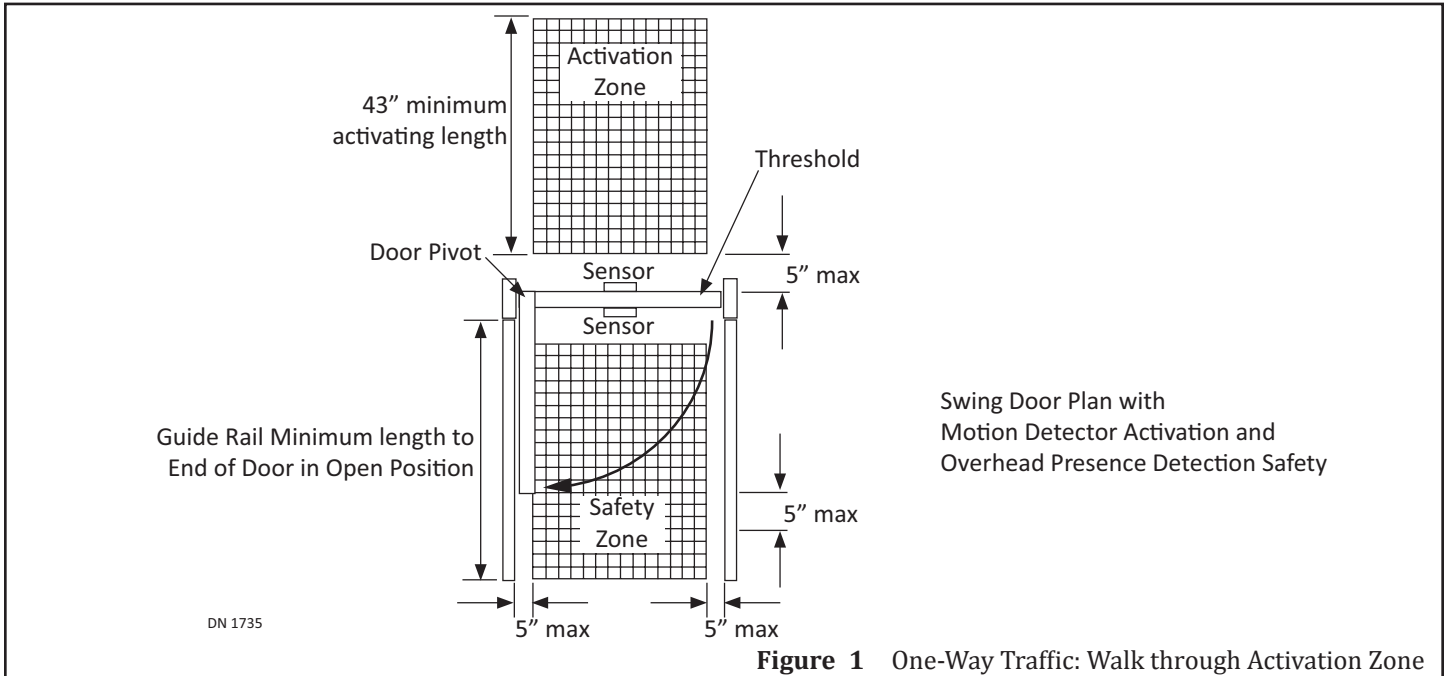

Figure 1 One-Way Traffic: Walk through Activation Zone
- a. If the door is equipped with an overhead mounted presence sensor, as long as you are in the Safety area of the door, it should not open. Please see Figure 1.